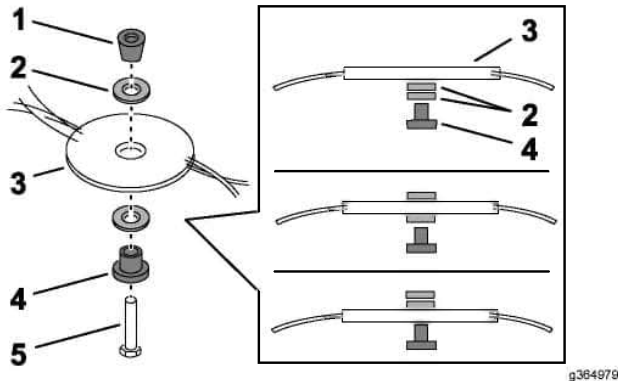

Figure 27
2. Change the position of the spacers to adjust the cutting height as shown in \(Figure 27\).